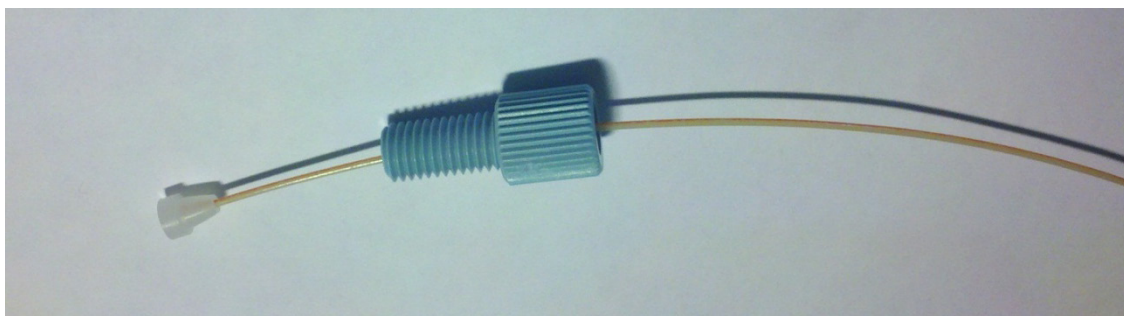

Figure D-6 Buffer Tubing Fittings at the Syringe Valve
6. Insert the tubing carefully into the conical end of a new white ferrule as shown in Figure D-6.